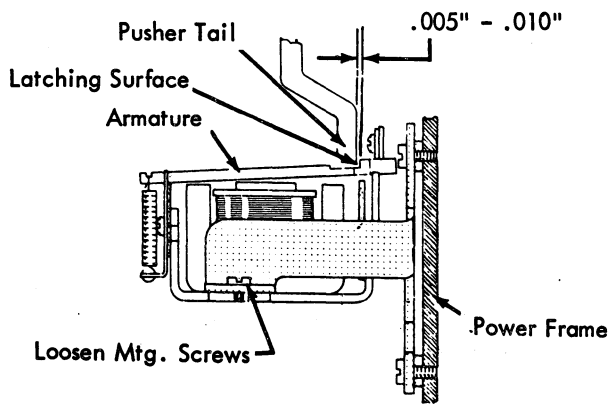

FIGURE 32. Magnet Unit Position
7. **Magnet Unit (Fig. 32)** - Position under its two mounting screws for .005" to .010" clearance between the pusher tails and armature latching surfaces (armatures at rest).
6. **Magnet Unit (Fig. 32)** - Position under its two mounting screws for .005" to .010" clearance between the pusher tails and the armature latching surfaces (armatures at rest).